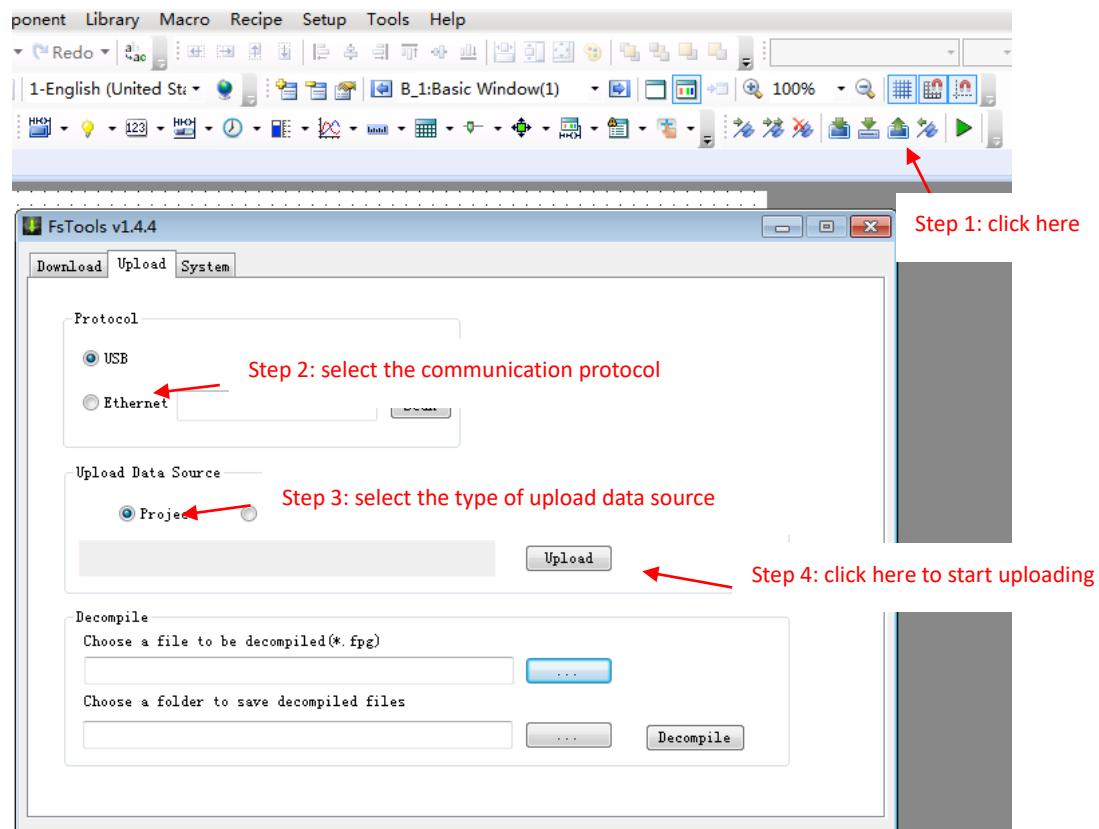

Fig. 20
- ① Click the “Upload” icon on the tool bar, set the communication mode, select to upload the project, and start to upload the project, as shown in Fig. 20.